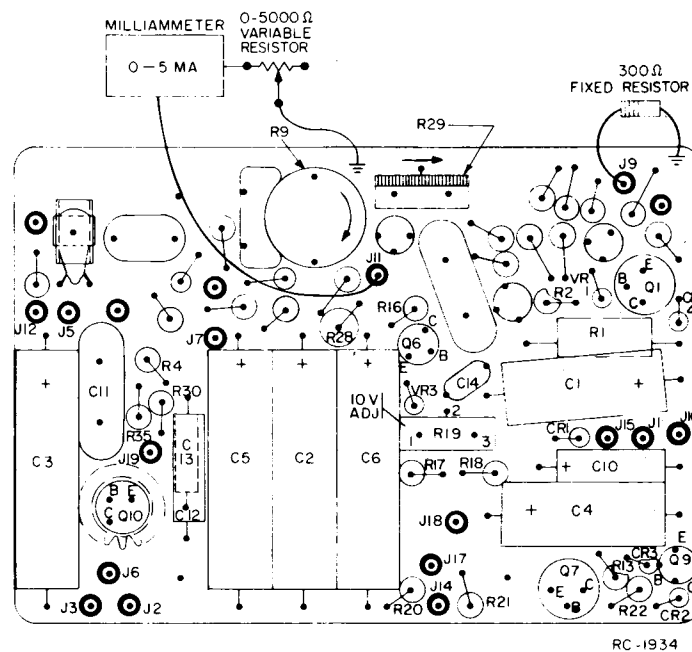

Figure 1 - Power Regulator Board Set-Up
2. Disconnect the Orange lead from A501-J9 and the White lead from A501-J11. Connect the 300-ohm fixed resistor from J9 to ground as shown in Figure 1.
2. Disconnect the Orange lead from A501-J9 and the White lead from A501-J11. Connect the 5000-ohm variable resistor in series with the milliammeter, and connect one end of the circuit to J11 and the other end to ground as shown in Figure 1.